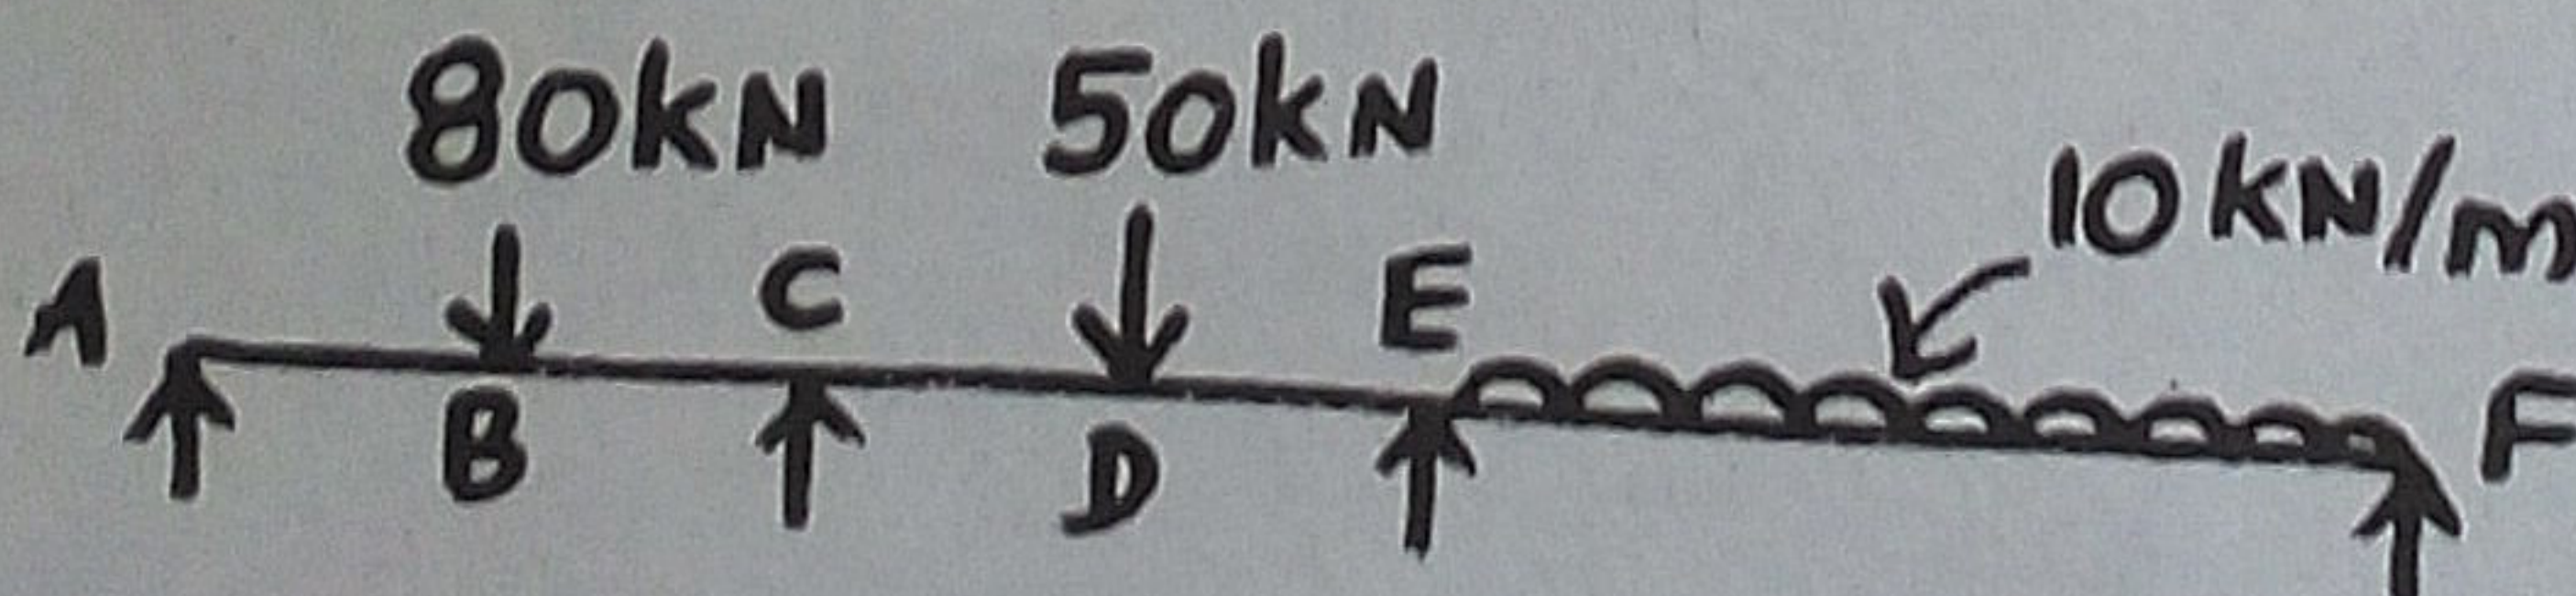

Fig. Q. 12(b)
- (b) For the beam given in fig. Q. 12(b), find the moment and reaction at the supports. Draw SFD and BMD. Take $AB = 2 \text{ m}$; $BC = 3 \text{ m}$; $CD = 4 \text{ m}$, $DE = 3 \text{ m}$, $EF = 8 \text{ m}$.